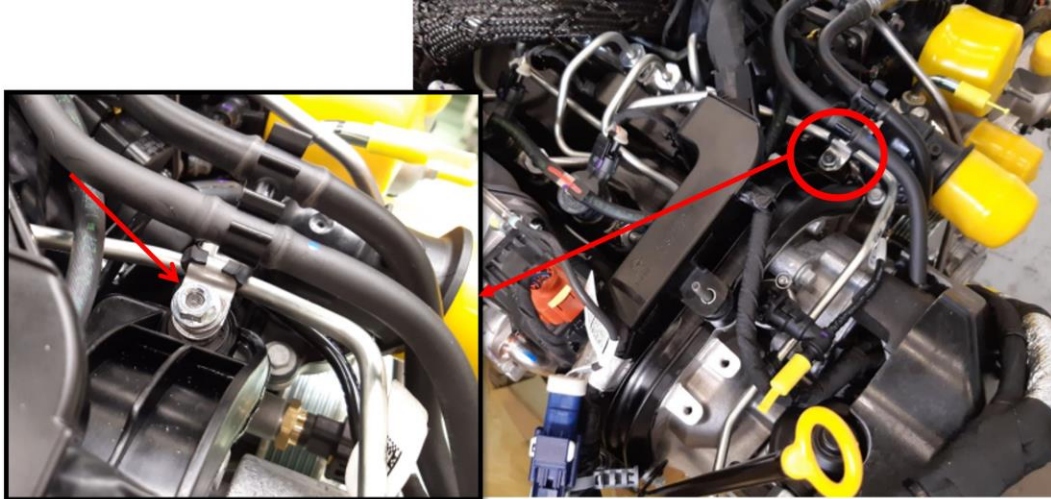

Figure 7
12. Install the high-pressure fuel supply line retaining clamp to the valve cover stud with the supplied nut, and secure hand tight. Please see (Figure 7).